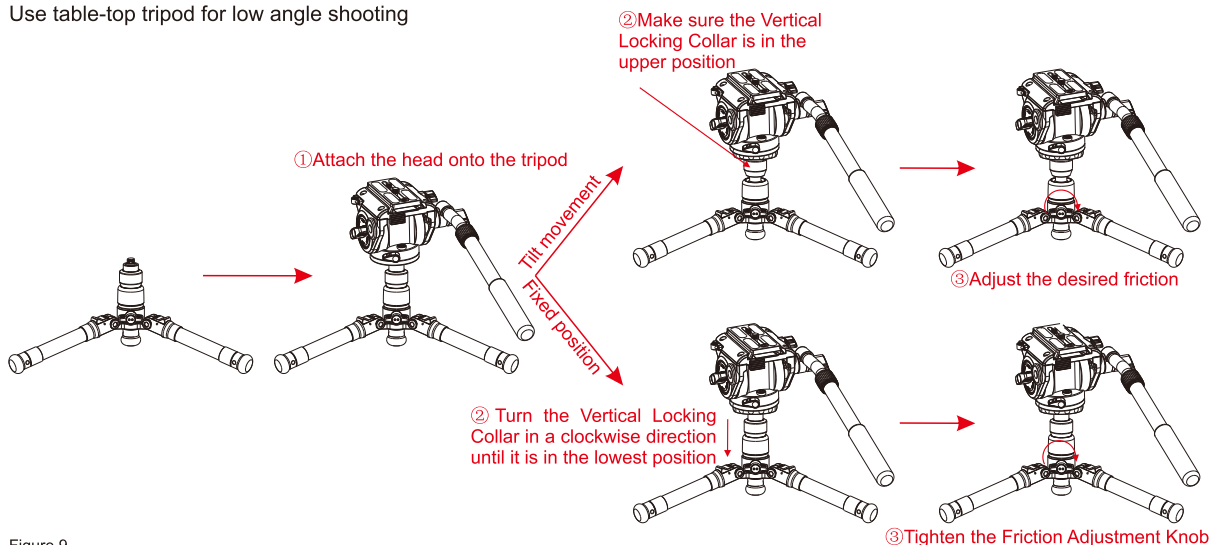

Figure 9
6. Use table-top tripod for low angle shooting (figure 9)